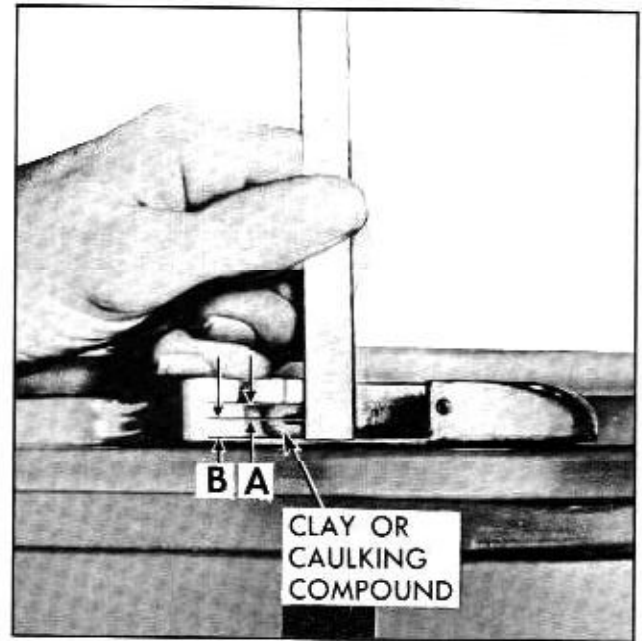

Fig. 15-55 Lock Striker Engagement Check
- b. To determine if lock striker emergency spacers are required, apply modeling clay or body caulking compound in the lock striker notch where the lock extension engages; then, close the back door to form a measureable impression in the clay or caulking compound. (Fig. 15-55)